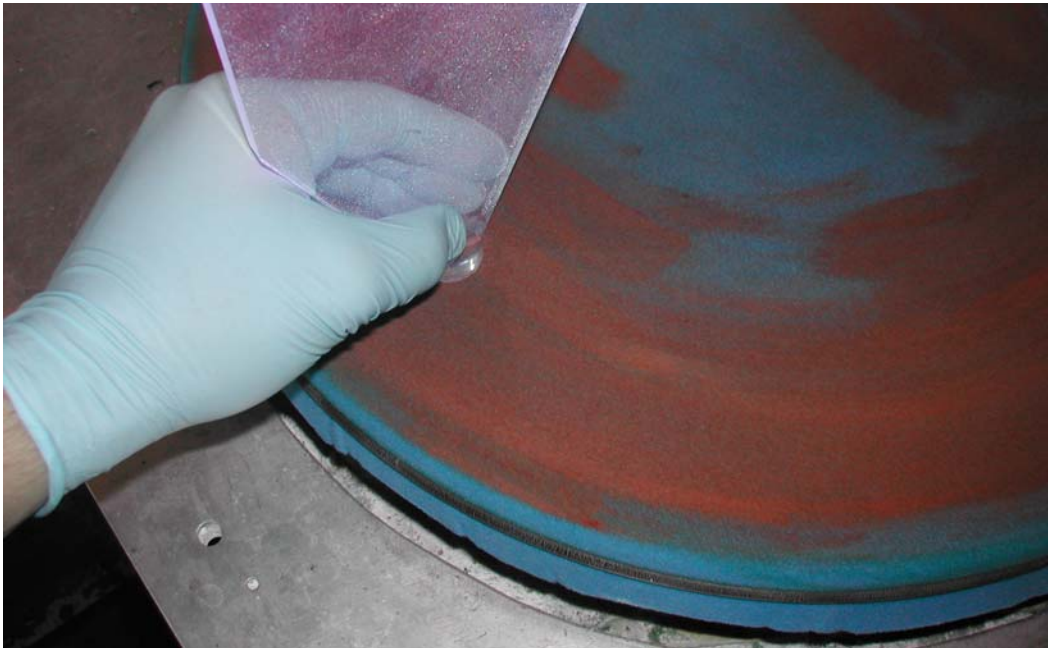

Figure 8: Scintillator being polished with putz on rotating round pad.
2. **Sprinkle some Putz Pomade (~800 grit) onto the felt.** The red material in Figure 8 is the putz. If you do not have a rotating pad, go on to step 5.